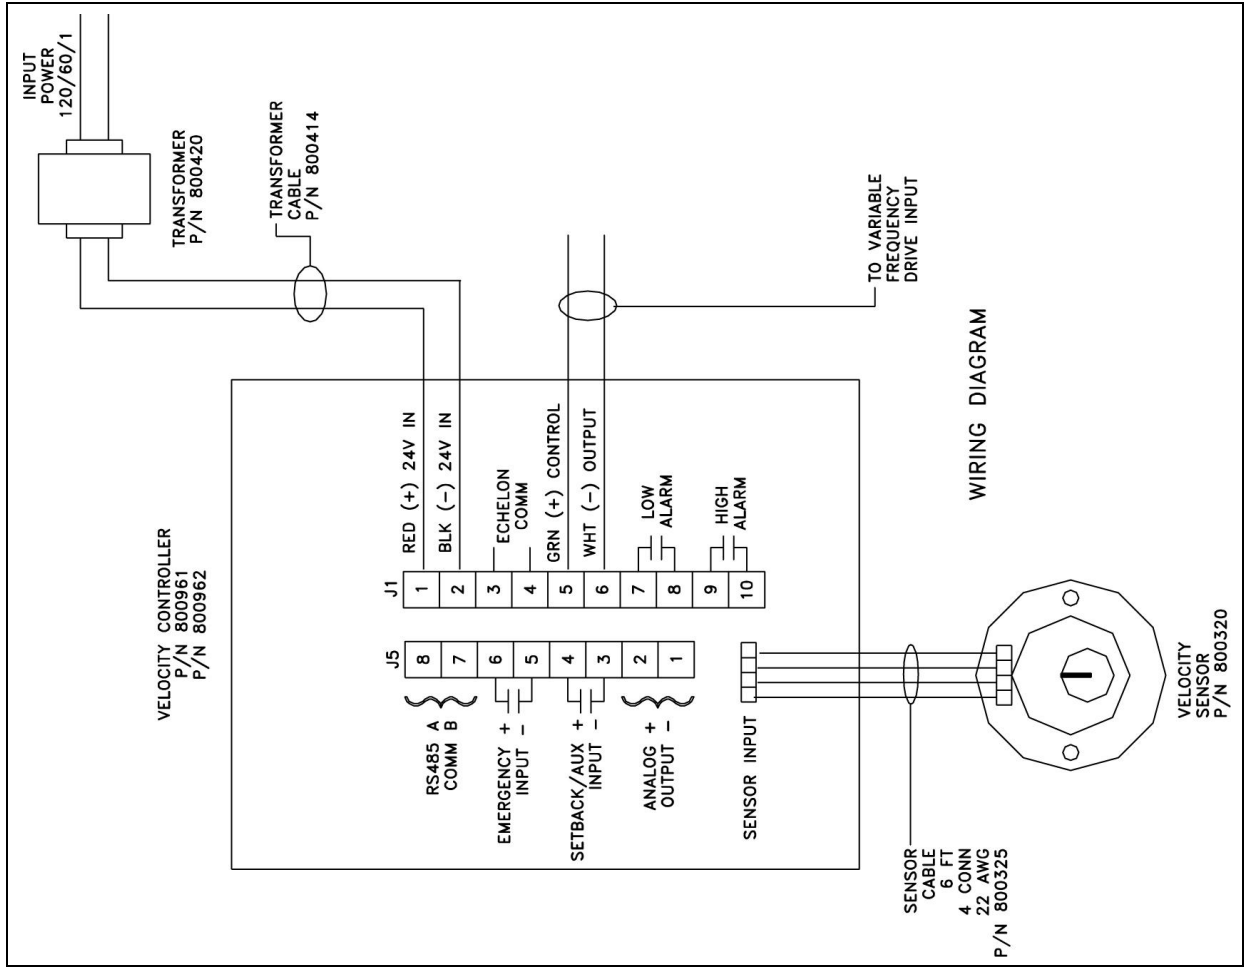
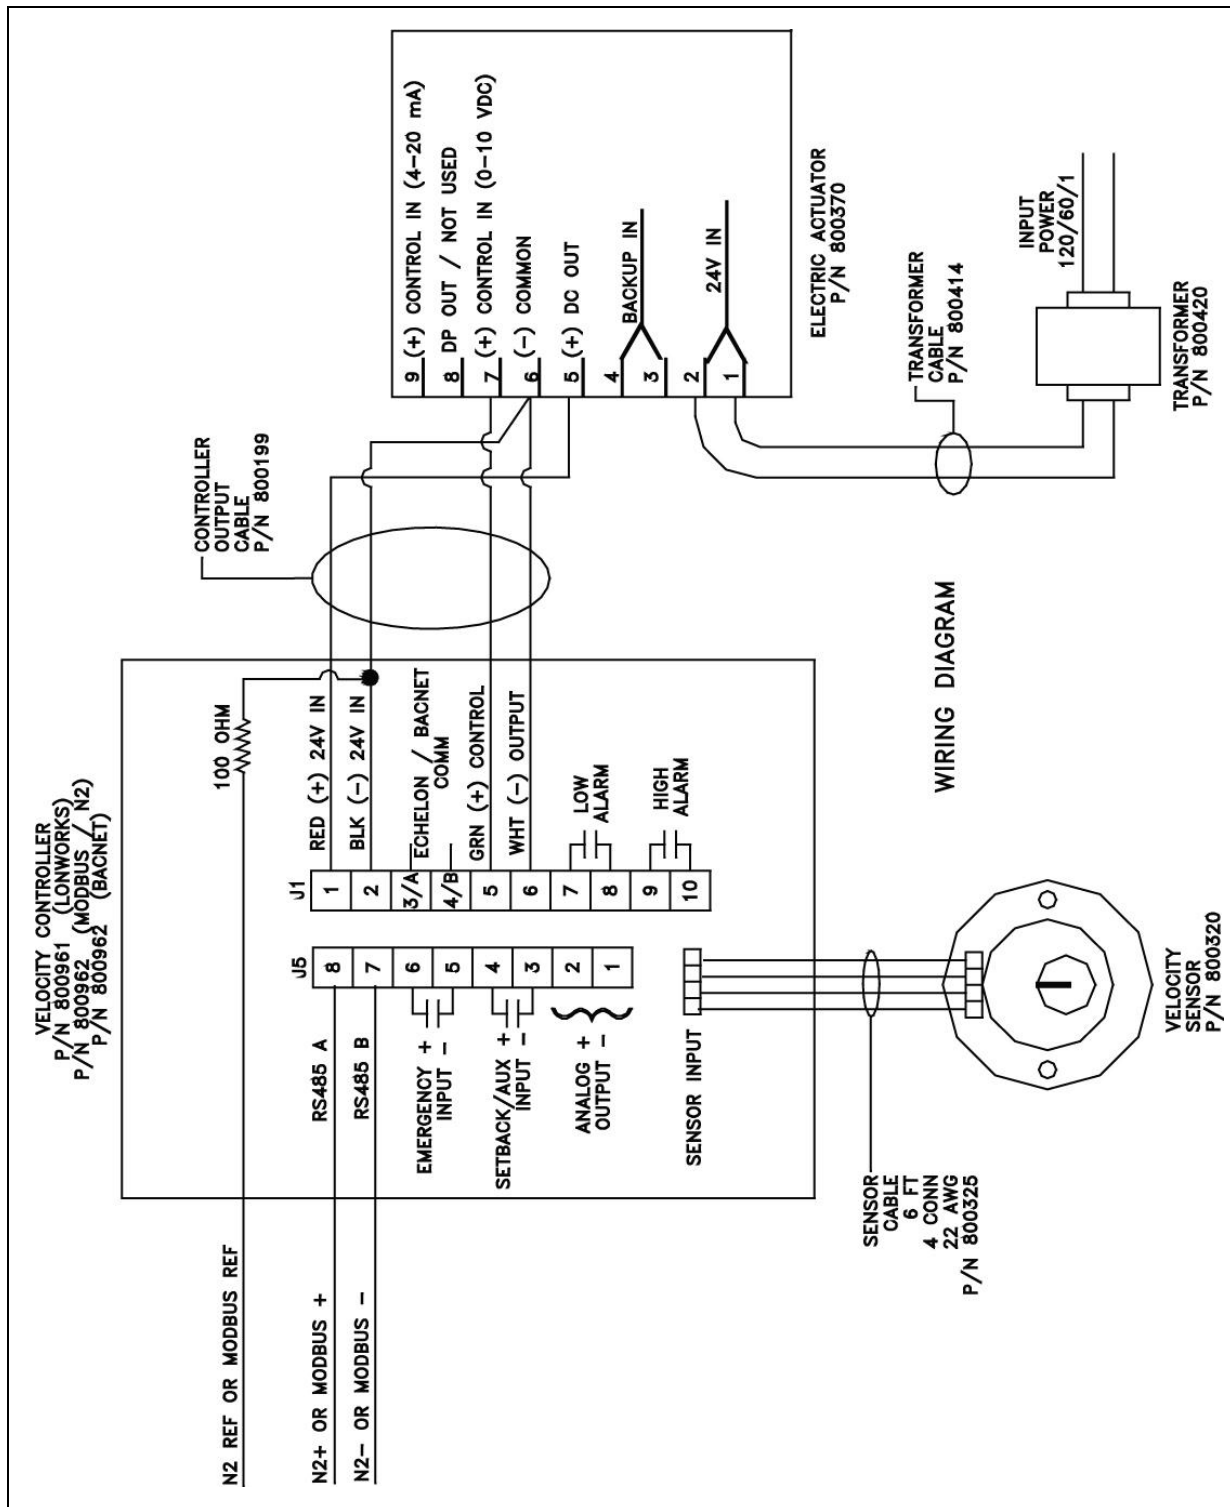

Figure 9: Wiring Diagram - Motor
Figure 10: Wiring Diagram - Damper with Electric Actuator Version
3. Refer to the wiring diagrams, Damper Versions (Figure 10) and Motor Versions (Figure 9), for proper wiring installation.